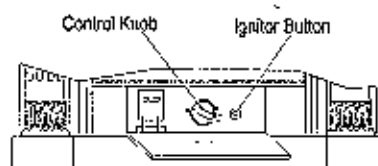

Figure 11 - Control Knob and Ignitor Button location
- Wait five (5) minutes to clear out any gas. Then smell for gas, including near the floor. If you smell gas, STOP! Follow "B" in the safety information, page 2. If you don't smell gas, go to the next step.
- Turn control knob counterclockwise to the PILOT position. Press in control knob for five seconds (see Figure 11).